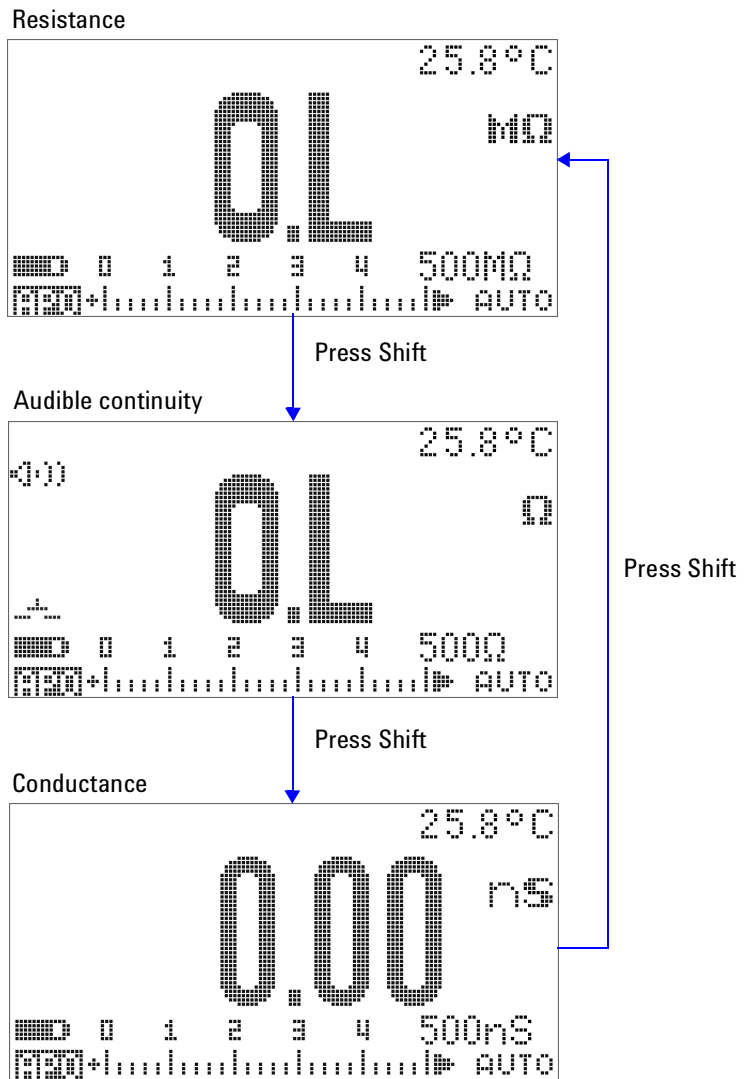

Figure 2-9 Resistance, audible continuity, and conductance tests
- 4 Press  to scroll through audible continuity test () or , depending on Setup configuration), conductance measurement () and resistance measurement (, , or ) as shown in Figure 2-9 on page 43.